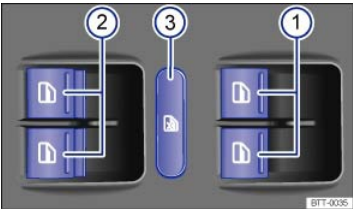

Fig. 35 In the driver door: Switches for front and rear power windows.
Key to ⇒ Fig. 35 :
The safety switch ⇒ Fig. 35③ deactivates the power windows in the rear doors. The yellow indicator light in the switch lights up.